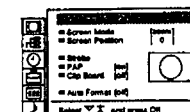

Fig. 34
- 2 Select the symbol **□** for "Screen Mode" with **Δ** or **∇** and press **OK**. The **SCREEN MODE** menu appears (See Fig. 34).